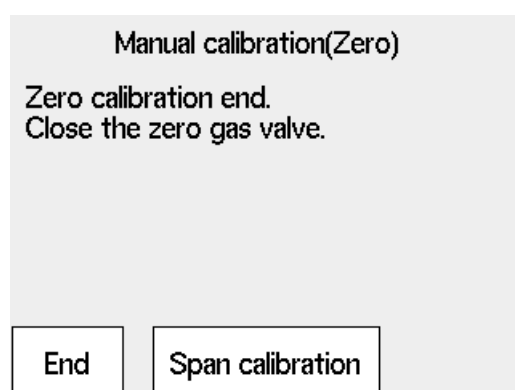

Figure 7.24 Zero Calibration complete
- (9) After the measured value has stabilized, press the [Enter] key to display the "Zero calibration complete" display shown in Figure 7.24. At this point, the measured value is corrected to equal the zero gas concentration setting. Close the zero gas flow valve. The valve lock nut should be tightened completely so that the zero gas does not leak.